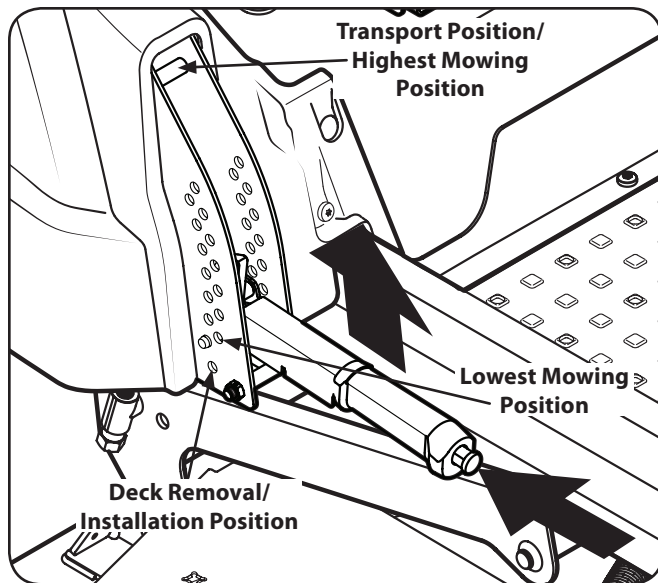

Figure 7-3
1. Using the deck lift handle, raise the deck to the position that provides the most horizontal run of the belt between the deck idler pulleys and the PTO pulley on the bottom of the engine. See Figure 7-3.
5. Lower the deck into the lowest position using the deck lift handle. See Figure 7-3.